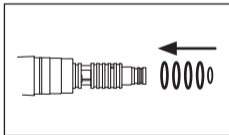

Fig. 44
- 3 Insert the complete set of new O-rings in the correct grooves (Fig. 44).